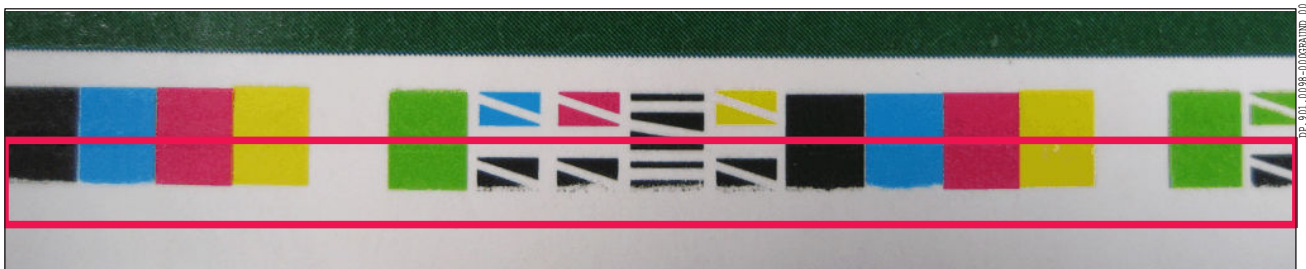

Fig. 10 Incorrectly printed quality control strip
- Ensure that the quality control strips are printed completely and with sharp, clean edges (not as in Fig. 10 in the area in the red box). The quality control strips must never protrude into the gripper margin or over the rear edge of the sheet and must not print at the edge of the blanket.